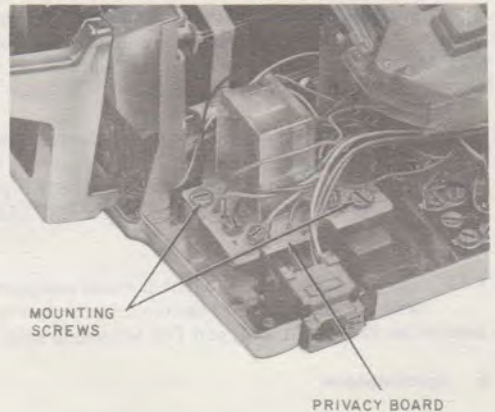

Fig. 11—Privacy Circuit Mounted in Telephone Set
4.47 A privacy circuit, D-180486 Kit of Parts, must be added to an 832/2832A (MD), B (MD), BM, or DM telephone set used as a privacy station (Fig. 11). The 832/2832C (MD), CM, and EM telephone sets are wired at the factory with the privacy circuit operational.